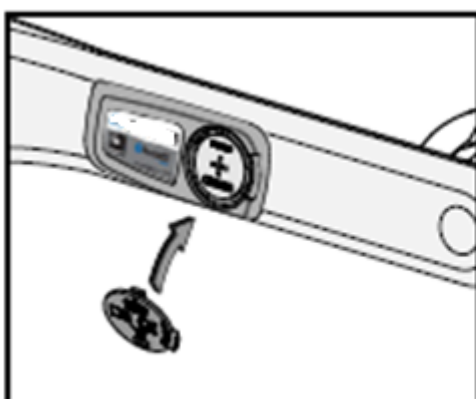

FIG 5
5. Replace the battery cover as illustrated in **FIG 5**.